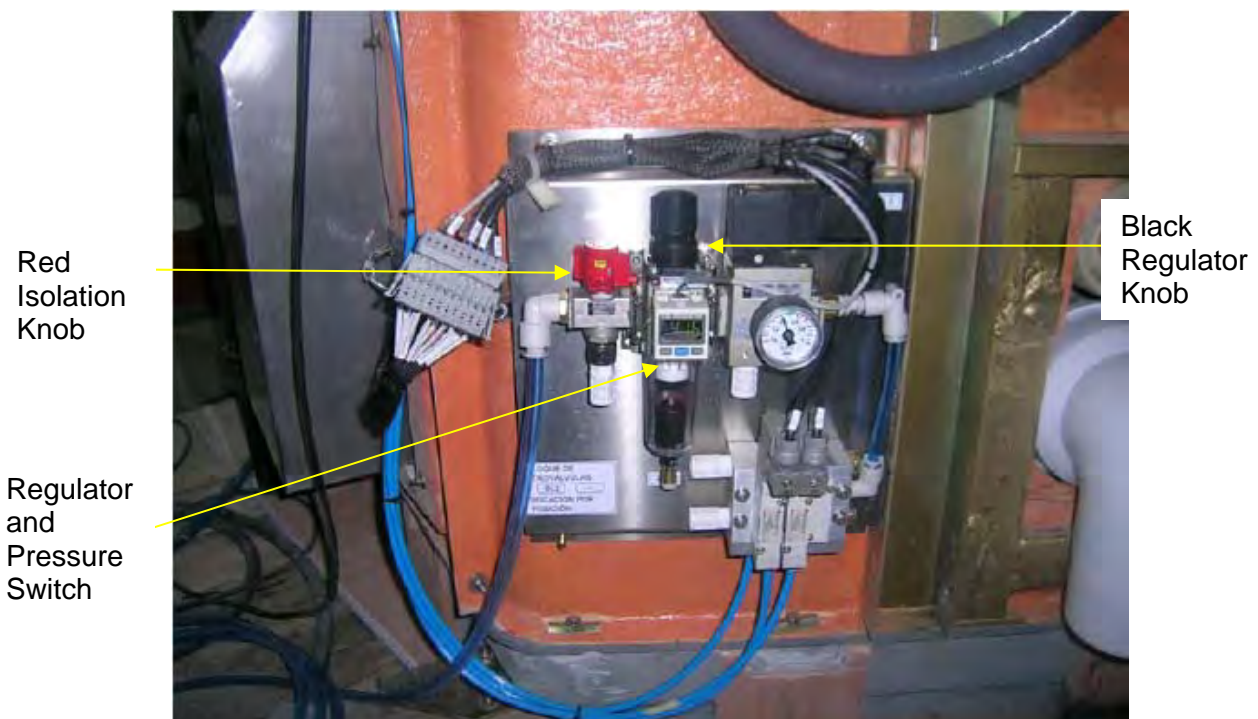

Figure 1: Pneumatic Control Panel
2. Isolate the air supply by turning the red isolation knob (see Figure 1).